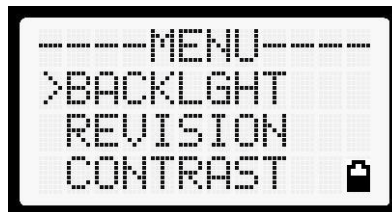

Figure 8-1: Menu Display
2. Upon entering the menu selection mode, menu options will appear in the display (see Figure 8-1).